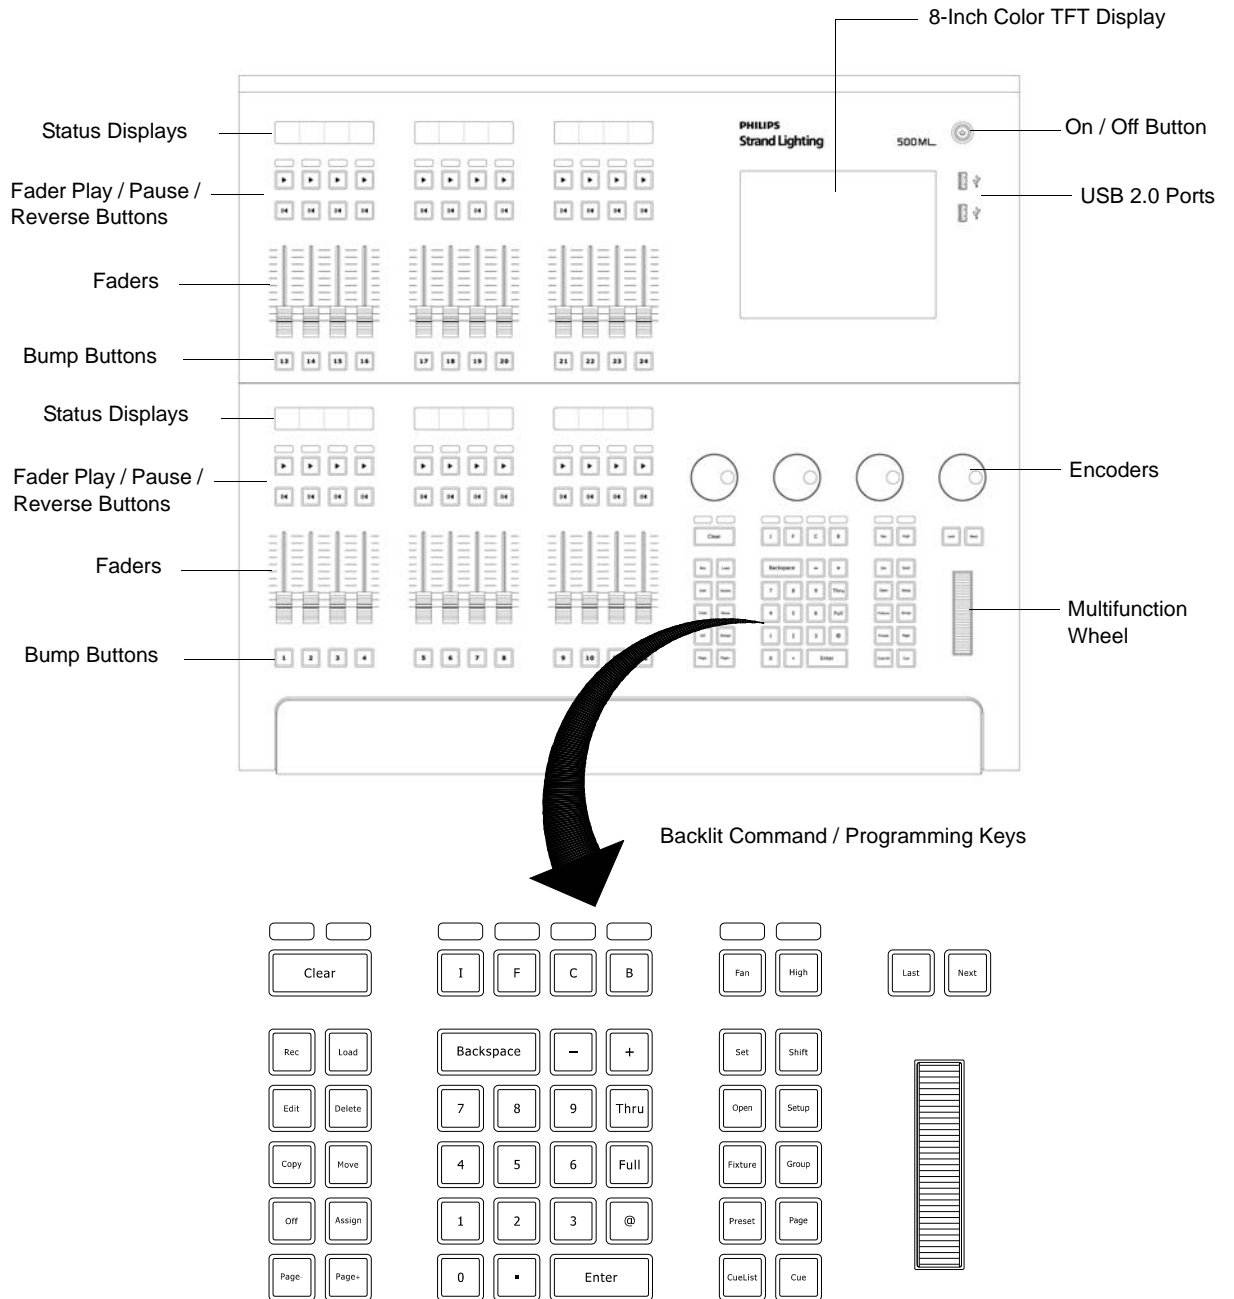

Figure 1: 500ML Lighting Control Console Control Features
Figure 1 is a quick overview of the 500ML Lighting Control Console controls.
Figure 1 is a quick overview of the 500ML Lighting Control Console rear panel connections.
- To begin using the console, press the power button on the right hand side next to the touchscreen (refer to Figure 1 on page 5).